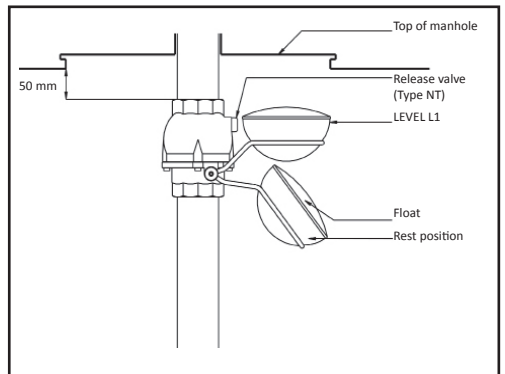

Figure 2
- 2 : Mount the overfill prevention device on the pipe sleeve under the manhole plate. The 50mm minimum distance between the top of the overfill prevention device and the tank generator must be respected in all circumstances. (Figure 2)